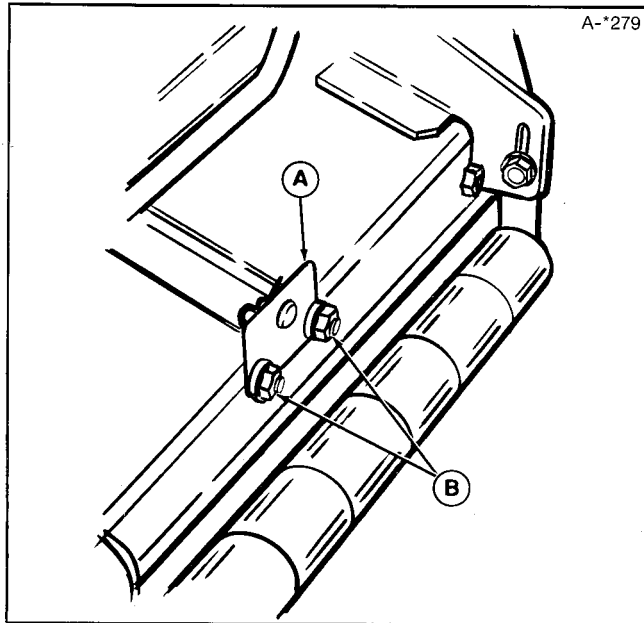

Figure 5. Lift Bracket
11. Make sure the lift bracket (A, figure 5) is installed with hardware (B) as shown inserting capscrew from inside. Use two 3/8-16 x 1 capscrews, 3/8 lockwashers and 3/8 nuts.